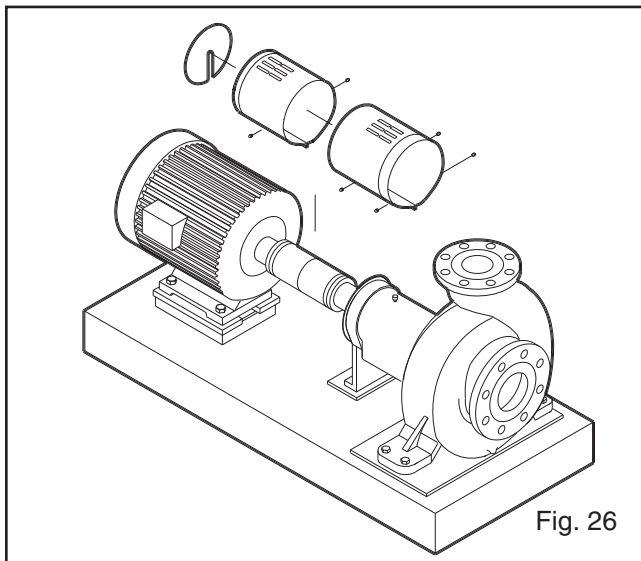

Fig. 26
2. Install coupling guard (Fig. 26). Refer to Coupling Guard Installation and Disassembly Section *Appendix II*.